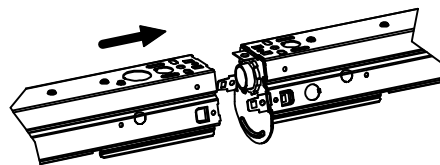

FIG 8: ROW MOUNT CONNECTION
- 4) Install screws as shown in FIG 8 and make electrical connections inside luminaire in accordance with the National Code and local regulations. Refer to page 2 for installing the LED carrier and lens.